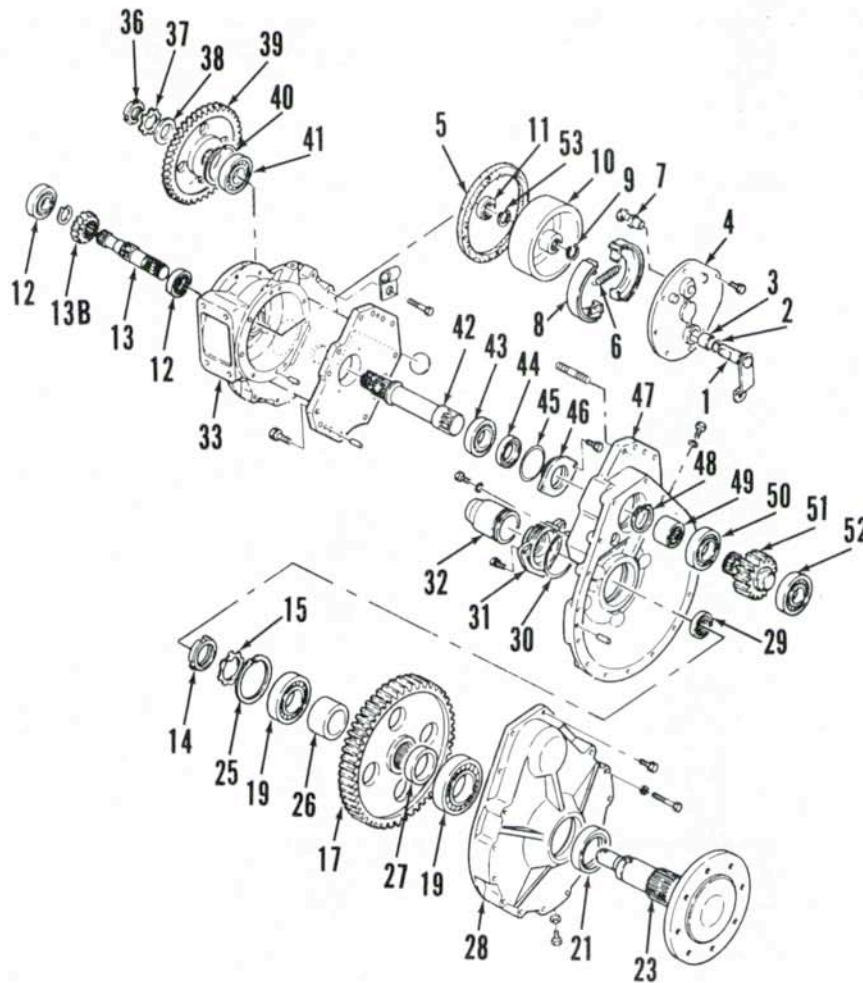

Fig. 234—Exploded view of final drive assembly used on 1710 Offset tractors.
157. OVERHAUL. To disassemble final drive unit after it is removed, remove cap screws attaching final reduction gear housing (47—Fig. 234) to axle housing (33) and separate the housings. Remove cover (32) and seal retainer (31). Remove nut (14) from axle shaft (23). Unbolt and separate housing cover (28) with axle shaft from reduction gear housing (47). Drive the axle shaft out of the cover and remove bearings (19), spacers (16 and 27) and final drive gear (17). Remove final drive pinion (51) and bearings (50 and 52).